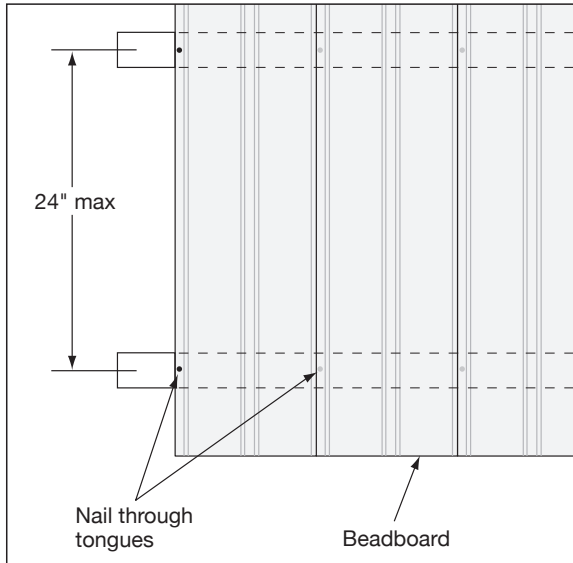

Fig. 47
- **4", 6", and 8" wide Beadboard only:** Can be installed with 15-gauge trim nails through the tongue (**Fig. 47**)